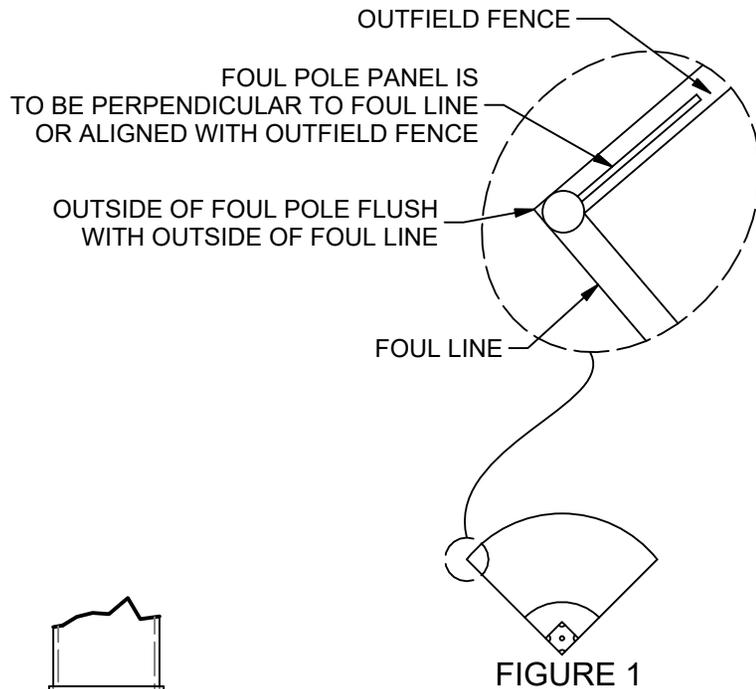
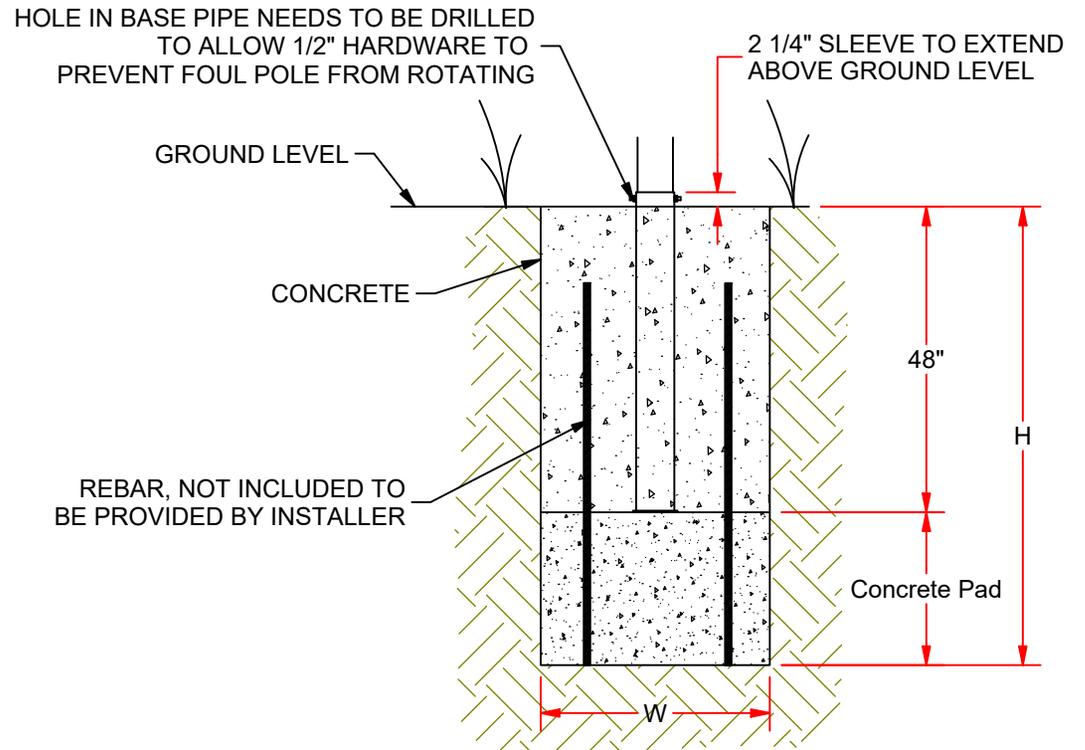

FIGURE 1
FIGURE 2
- 1) Determine the proper location for the foul poles on the playing field, see figure 1. Excavate the footing holes to the dimensions shown in figure 2. These are suggested dimensions for average soil conditions, consult local building codes.
- 2) Pour concrete pad at the bottom of the footing, allow to cure for 24 hours (see figure 2). A six-piece rebar basket made of 5/8" x 60" rebar is recommended.
- 3) Place the ground sleeve into the footing and fully support it in a plumbed position (figure 2).